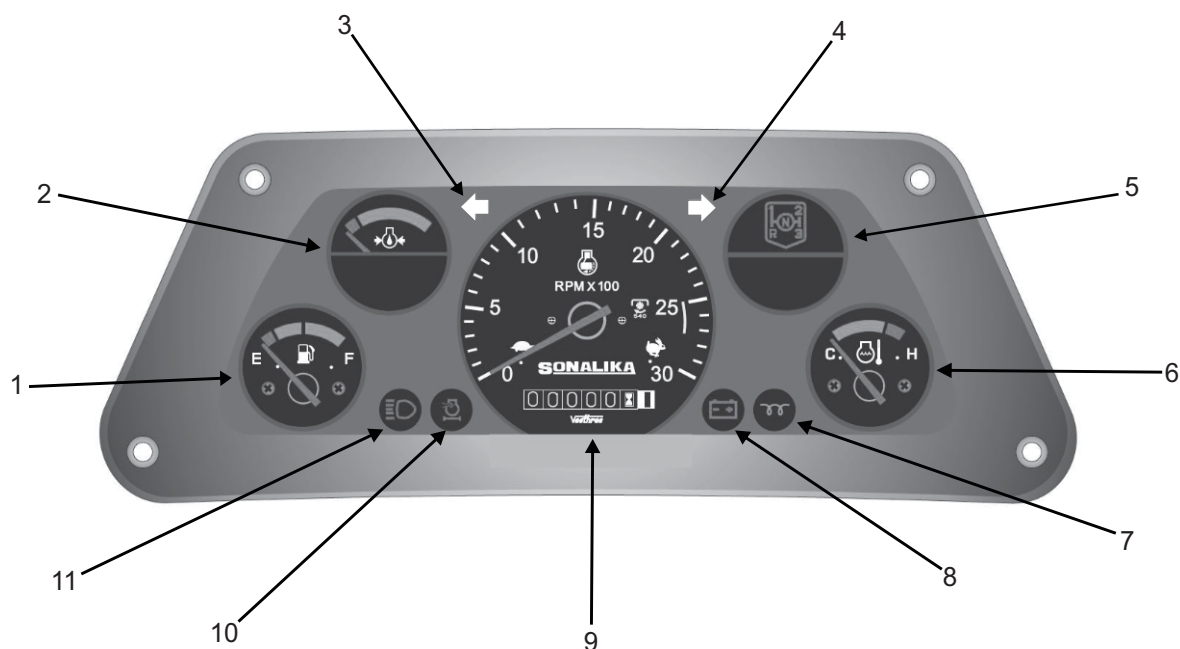

Fig. 3.2b
3.2.b Instrument Panel (For 26 model) - Fig. 3.2b